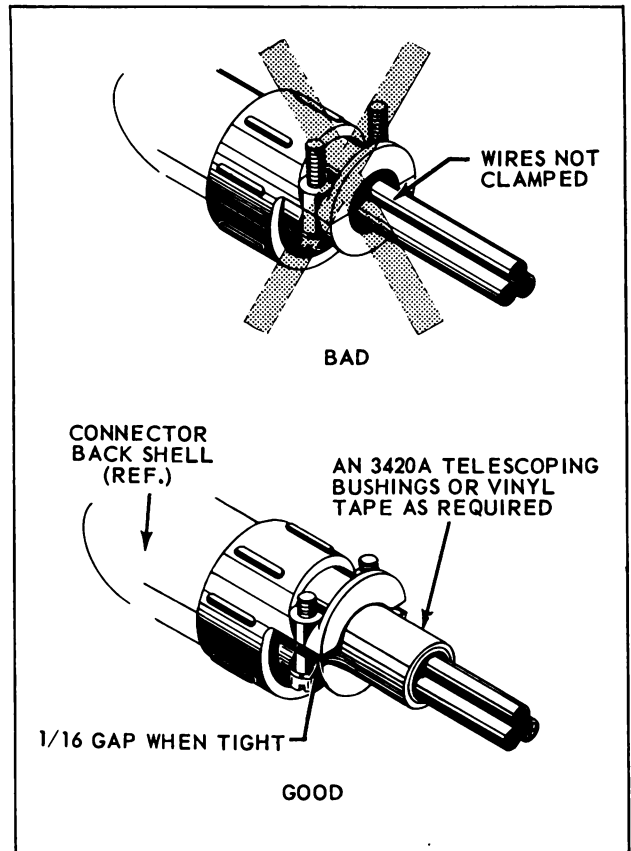

Figure 3-37. Installation of AN 3057 Clamp
- Attach saddle with both screws and tighten until $1/16$ inch space is left between saddle and body as shown in Figure 3-37. AN 3420A bushing, if used, should bulge slightly when saddle is tight.